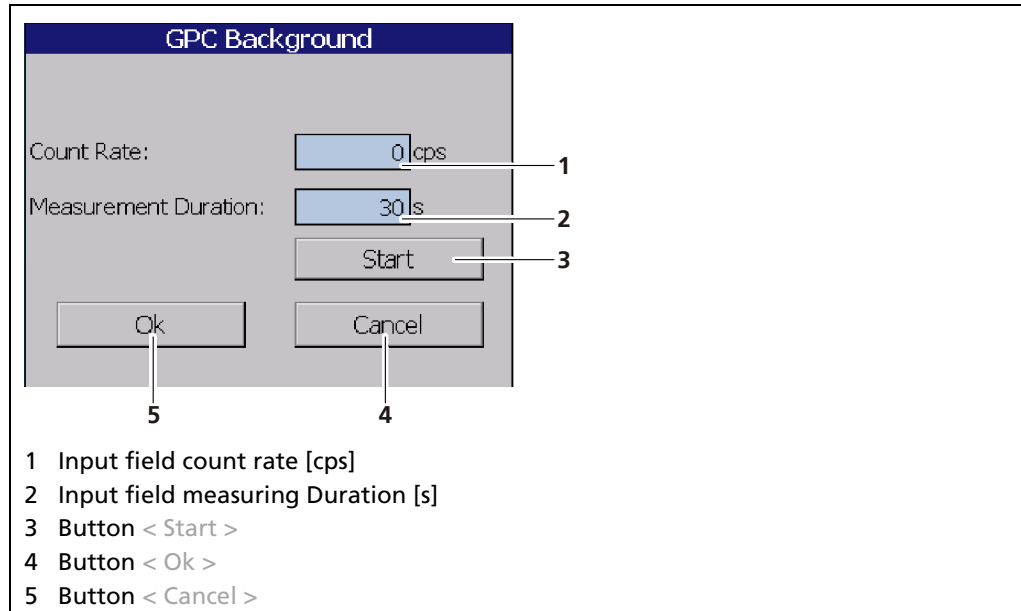

Fig. 95 GPC Calibration: Background
- ▶ A new window "Background" opens to determine the background radiation (Fig. 95).